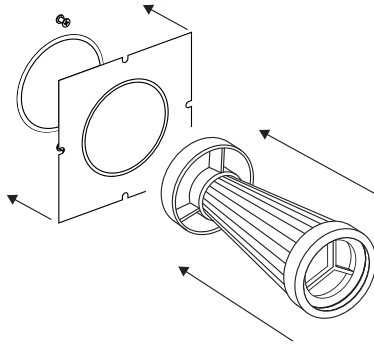

Figure 6.7. Installation the filter and sealing element
8. Glue the sealing element to the wall. Insert the filter into the ventilation duct (Figure 6.7). The edge of the filter should be recessed in the air channel by 20 mm.